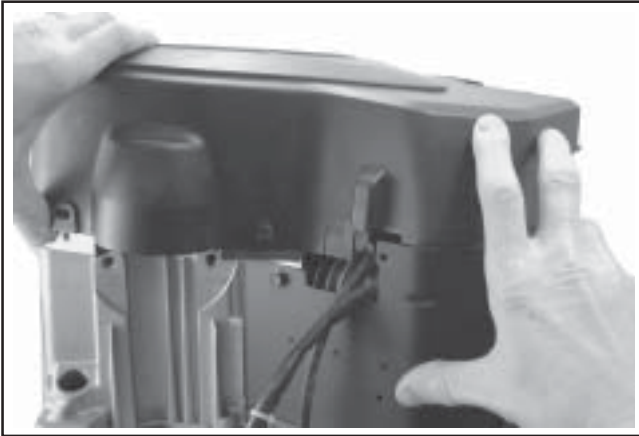

Figure 11-59. Installing Blower Housing.
2. Slide the blower housing into position over the front edge of the inner baffles. See Figure 11-59. Start a few of the screws to hold it in place.